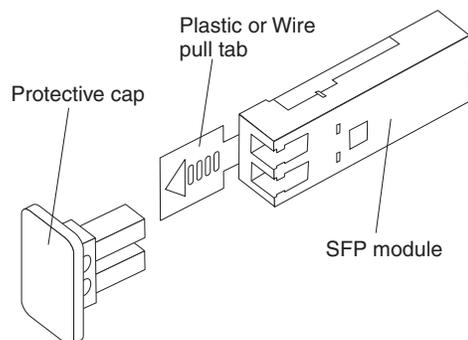

Figure 26. Small Form-Factor Pluggable (SFP) Module
2. Remove the protective cap from the SFP module, as shown in Figure 26. Save the protective cap for future use.
2. If necessary, remove the protective cap from the SFP module, as shown in Figure 26 on page 31. Save the protective cap for future use.